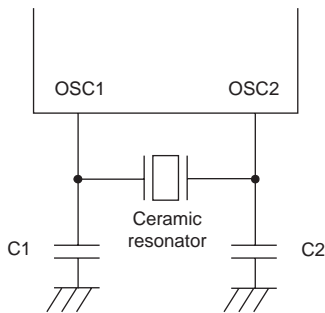

Fig. 2 Ceramic Resonator OSC Circuit
| Current dissipationCeramic resonator OSC        | IDDOP(1) | VDD             | Fig.2 4MHz   |         | 1.5       | 3.5  | mA   |
| Frequency   | fCFOSC   | OSC1, OSC2      | Fig.2 fo=4MHz (*5)   | 3840    | 4000      | 4160 | kHz  |
- (\*1) When oscillated internally under the oscillating conditions in Fig.2, up to the oscillation amplitude generated is allowable.